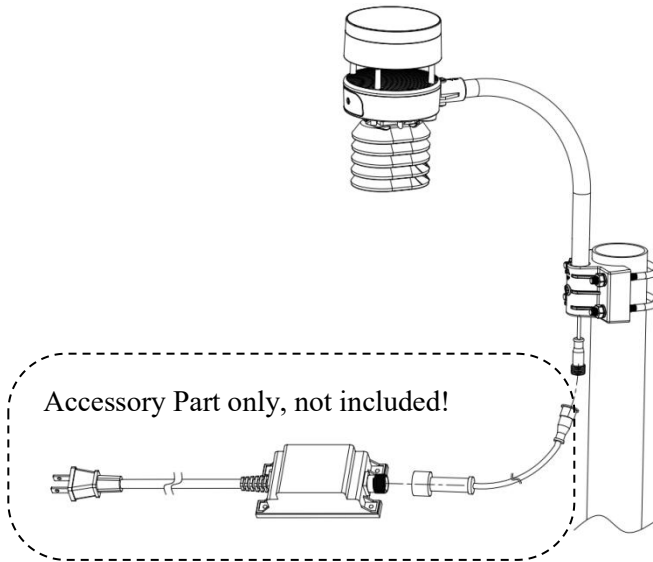

Figure 12-1: Sensor package mounting diagram 5-5
5. During wintertime, to prevent ice formed on the reflection surface, the optional extension cord be connected to a 12V/1.0A outdoor type power adapter as Figure 12-1 showed below. The outdoor rated adapter and extended power cable can be purchased separately: